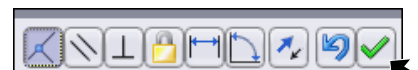

Fig. 4
- Step 3. Click Add/Finish Mate  in Mate pop-up toolbar to add a **Coincident** mate, **Fig. 4**.